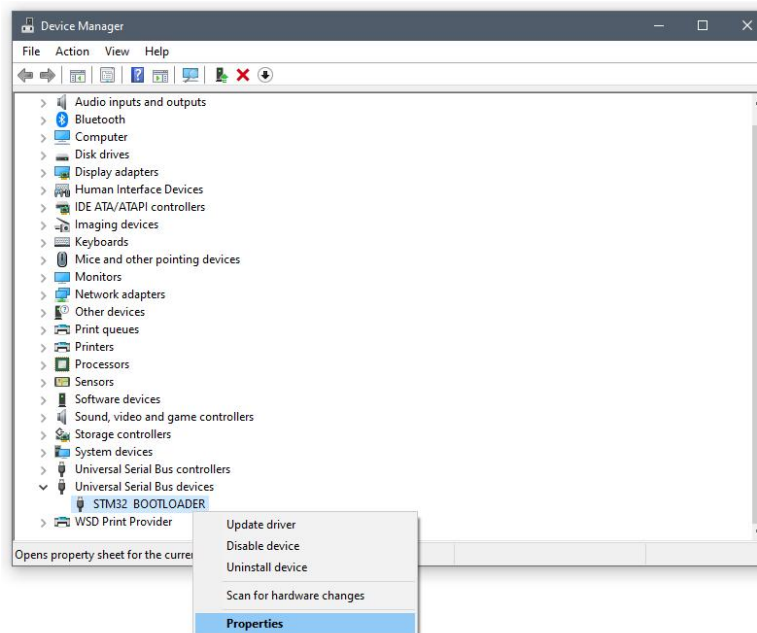

Figure 28: *Finding the device using the wrong driver.*
4. In the Device Manager Console, expand the "Universal Serial Bus devices" and right-click on "STM32 BOOTLOADER" as shown if Figure 28. If "STM32 BOOTLOADER" cannot be found call Avid for technical support.